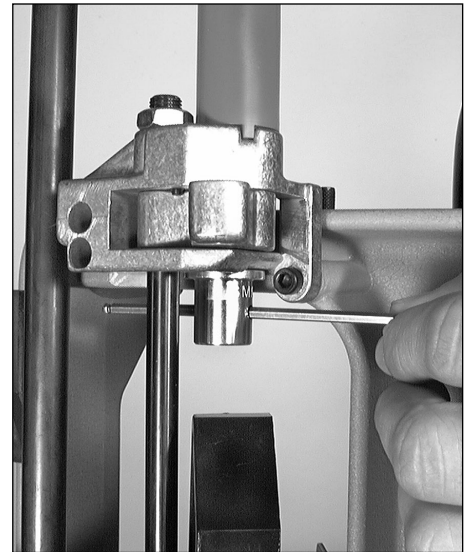

FIG 177
1. The body bushing is located on the right side just above Station 1 **FIG 177**. Remove the body bushing by slipping an Allen wrench through the cross hole and twisting it counter-clockwise.